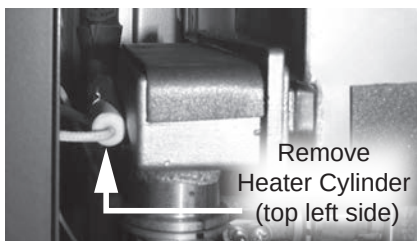

Figure 148 - Removing secondary HEX heating cylinders
- 40 Locate the heater cylinder on the left side of the secondary HEX. The heater cylinder is held in place by a flexible bracket. Remove the heater cylinder. See Figure 148.